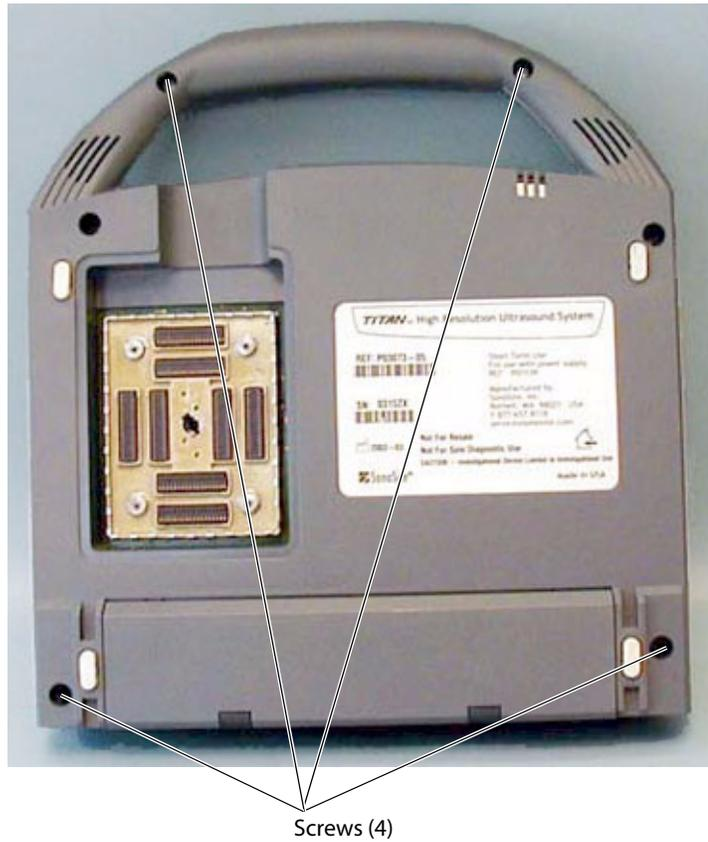

Figure 7.6 Bottom Screws
- 2 Remove the additional 4 screws from the bottom of the system per Figure 7.6.